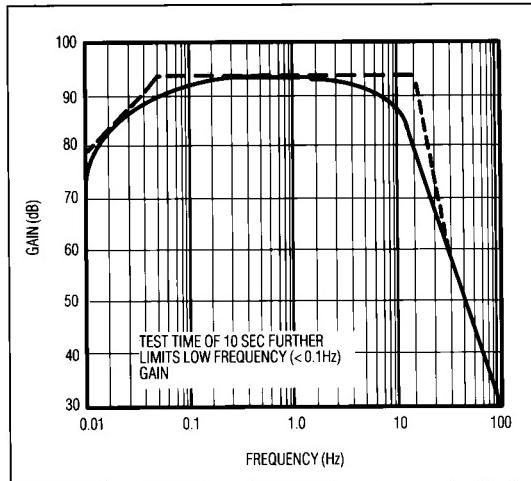

Figure 6. 0.1Hz to 10Hz $V_{\text{p-p}}$ Noise Tester Frequency Response
3. As shown in Figure 6, the 0.1Hz corner is defined by only one zero. A maximum test time of 10sec acts as an additional zero to eliminate noise contributions from the frequency band below 0.1Hz .